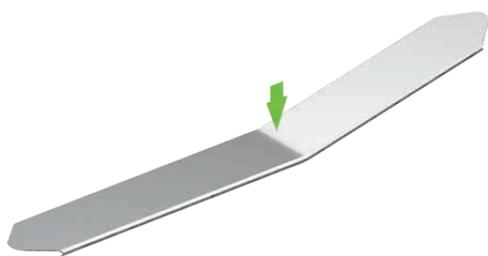

Fig. 5.22 Damaged cover strip
- ▶ Avoid deformations or creases of the cover strip as shown in Fig. 5.22!